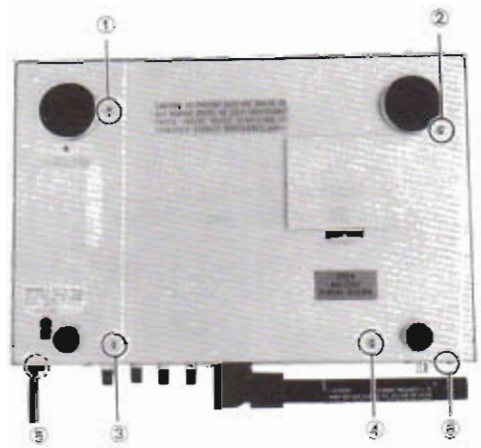

Fig. 1
1. Remove the 4 setscrews (①~④ in Fig. 1) used to fasten the bottom board.
3. Remove the 2 setscrews (⑤, ⑥ in Fig. 1) used to fasten the rear panel.